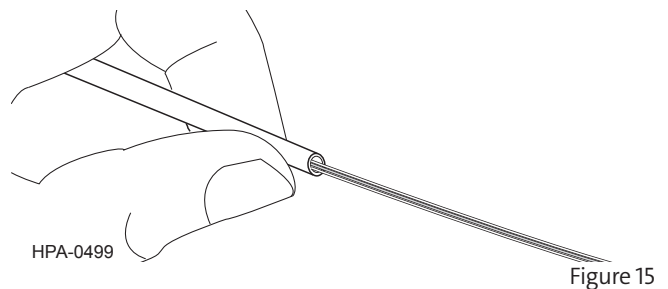

Figure 15
**Step 4:** Slide the scored section of tube off of the fibers (Figure 15).